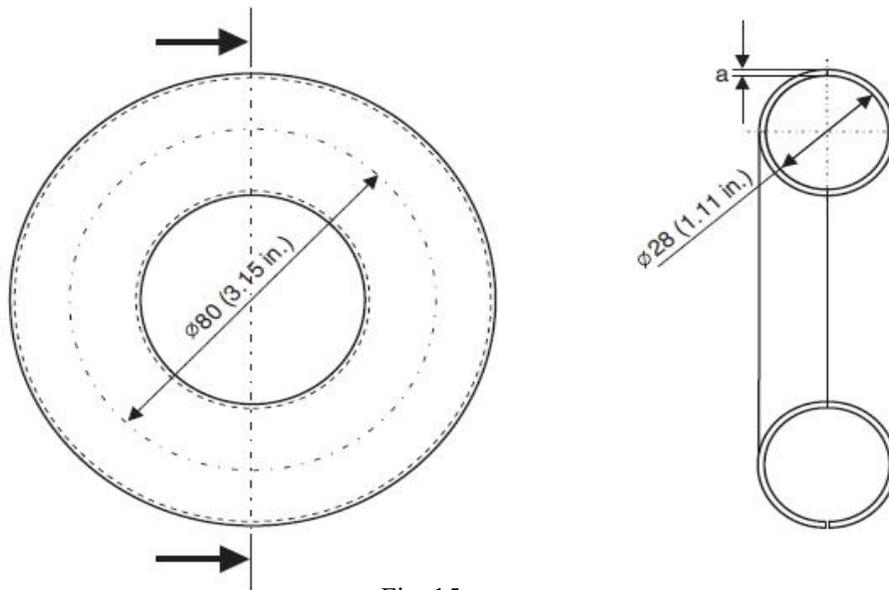

Fig. 15
**Exhaust elbow** (see Fig.15), Material/thickness: X15 CrNiSi20-12(DIN 1.4828)(stainless steel);